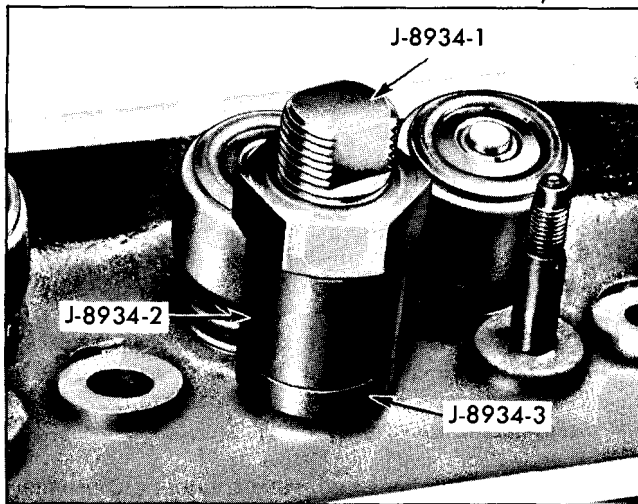

Fig. 6-112 Removing Rocker Arm Stud
- e. Thread 7/8" standard nut on stud remover and turn nut until rocker arm stud is out of cylinder head (Fig. 6-112).